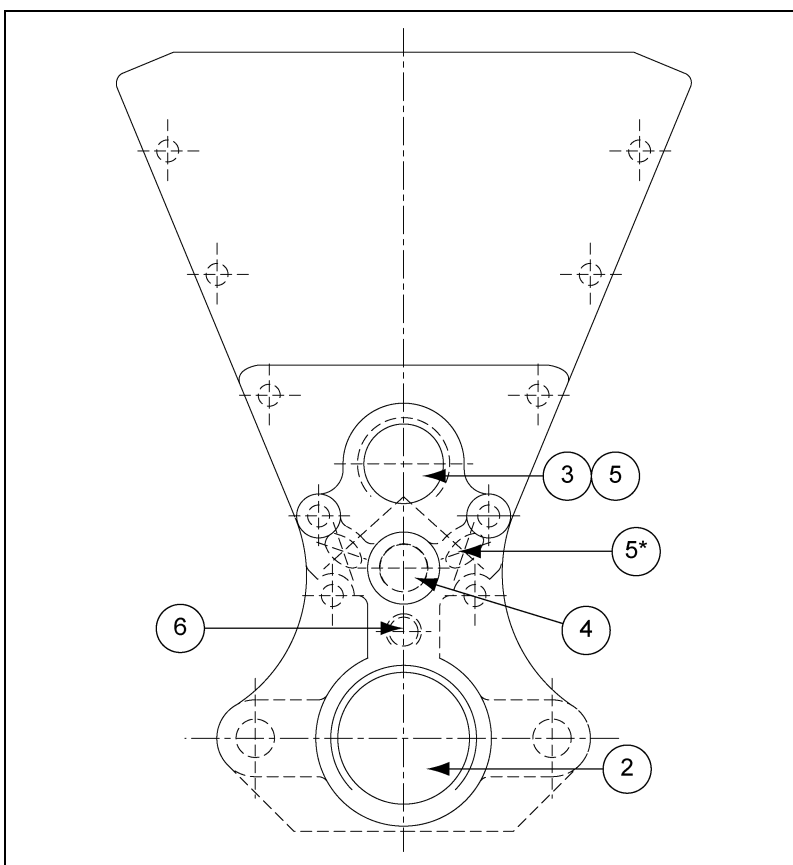

Figure 7B Burner End Plate, Spark, Pilot and Flame Rod Locations
- Flame rod may be re-positioned or gently bent to get better contact with the flame. Ensure rod is well clear of burner to prevent grounding when hot. Be careful not to damage ceramic insulator surrounding flame rod. (See Figure 7B.)